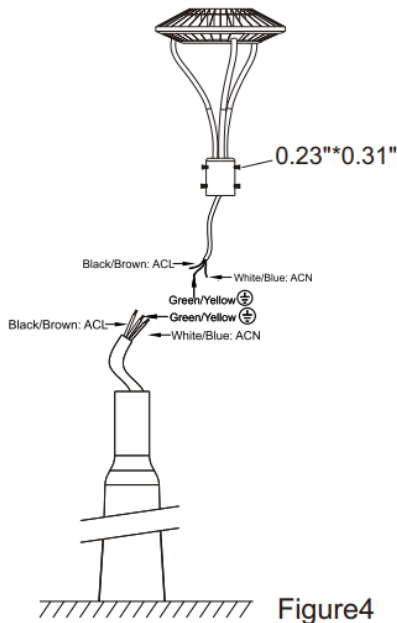

Figure 4
4. Loosen the handle screw and connect the corresponding LN Gwire to make it waterproof. [Figure 4]